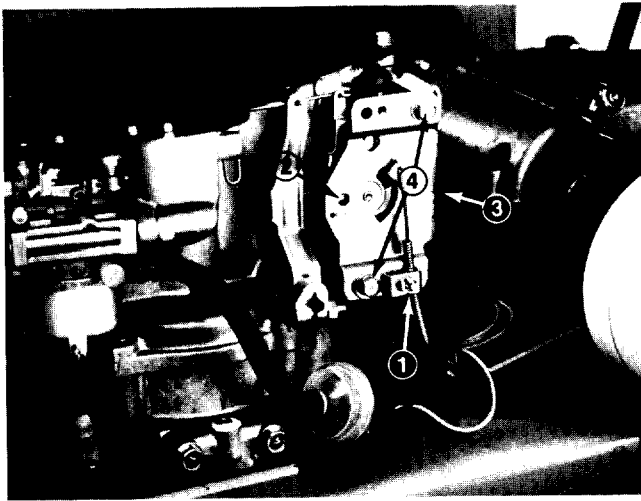

Figure 15
2. Loosen the throttle cable clamp screw (Fig. 15) and move the control cable casing and wire until the hole in speed control is aligned with hole in control plate. Tighten cable clamp.
6. Loosen (2) control plate mounting screws (Fig. 15).